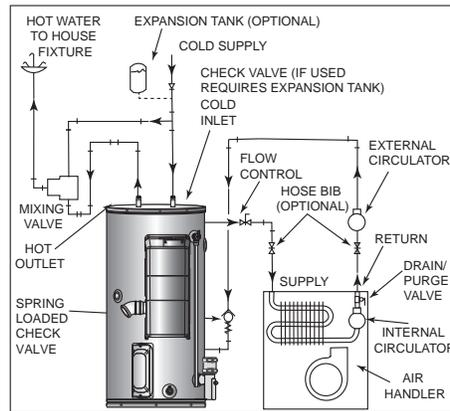
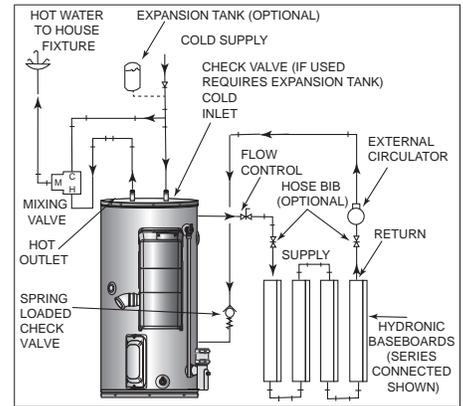

Figure 50. Typical Combo Heating Configuration
Figure 51. Typical Combo Heating with Hydronic Baseboards
- “Combo” Heating Systems require higher water temperatures than other applications. When the system is used to supply water for Combo Heating applications, a means, such as Thermostatic Mixing Valves at each point-of-use, must be installed to temper the water in order to reduce scald hazard potential. See *Figure 50* and *Figure 51*.
- A fan coil/air handler. See *Figure 50* (page 39).
- A hydronic baseboard (finned tube) loop/ In floor heating. See *Figure 50* (page 39).